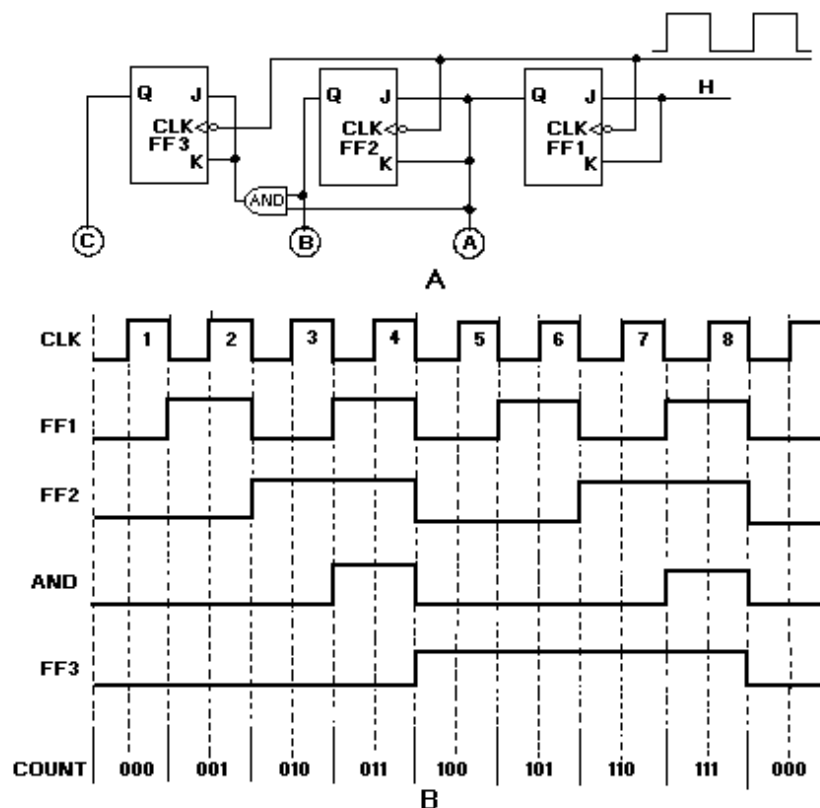

Figure 3-24. —Three-stage synchronous counter: A. Logic diagram; B. Timing Diagram.
A logic diagram of a three-state (modulo-8) synchronous counter is shown in figure 3-24, view A. The clock input is wired to each of the FFs to prevent possible errors in the count. A HIGH is wired to the J and K inputs of FF1 to make the FF toggle. The output of FF1 is wired to the J and K inputs of FF2, one input of the AND gate, and indicator A. The output of FF2 is wired to the other input of the AND gate and indicator B. The AND output is connected to the J and K inputs of FF3. The C indicator is the only output of FF3.
*Q41. In figure 3-24, view A, what logic element enables FF3 to toggle with the clock?*